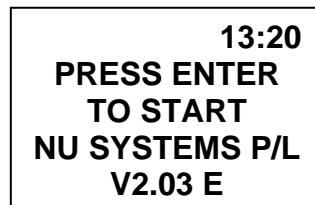

Figure 2 Fred Satscan Start Up Menu
Esc Key	The ESC key when selected will take you back to the starting Fred Satscan menu, refer to Figure 2 on page 6
- Hold the scanner in your hand and push the **trigger** once; this will switch the scanner on if it wasn't on already. The start up menu screen is displayed, refer to Figure 2